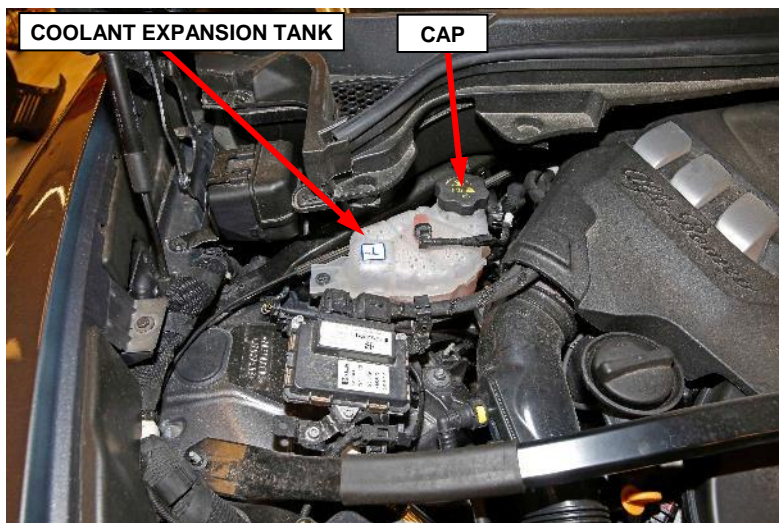

Figure 7 – Coolant Expansion Tank
24. With the engine cold, loosen the pressure cap on the engine coolant expansion tank (Figure 7).